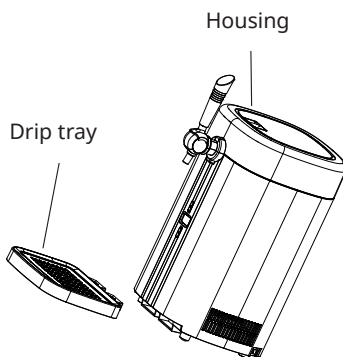

Figure 3
3. Lift the main machine backwards at an angle of 10-15°, align the drip tray with the slot at the bottom of the main machine, insert and assemble the drip tray, then place the product flat on the table (as shown in Figure 3).